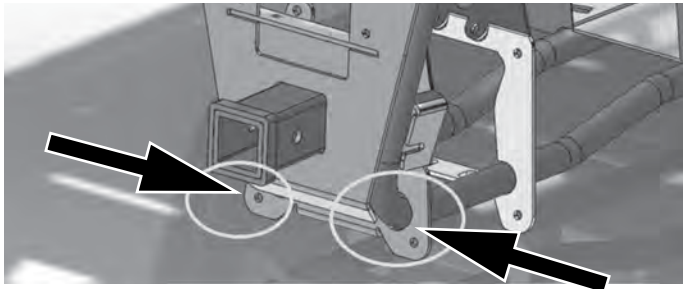

figure 4.18
When trailering the unit, use tie down points close to the wheel ends to ensure the straps remain tight during transit. Ref figs: 4.18 & 4.19 for front tie points "A" and rear tie points "B".
1. Use (4) ratcheting straps with the appropriate load rating for your vehicle.
2. Tie down unit at front across chassis as shown in fig 4.18